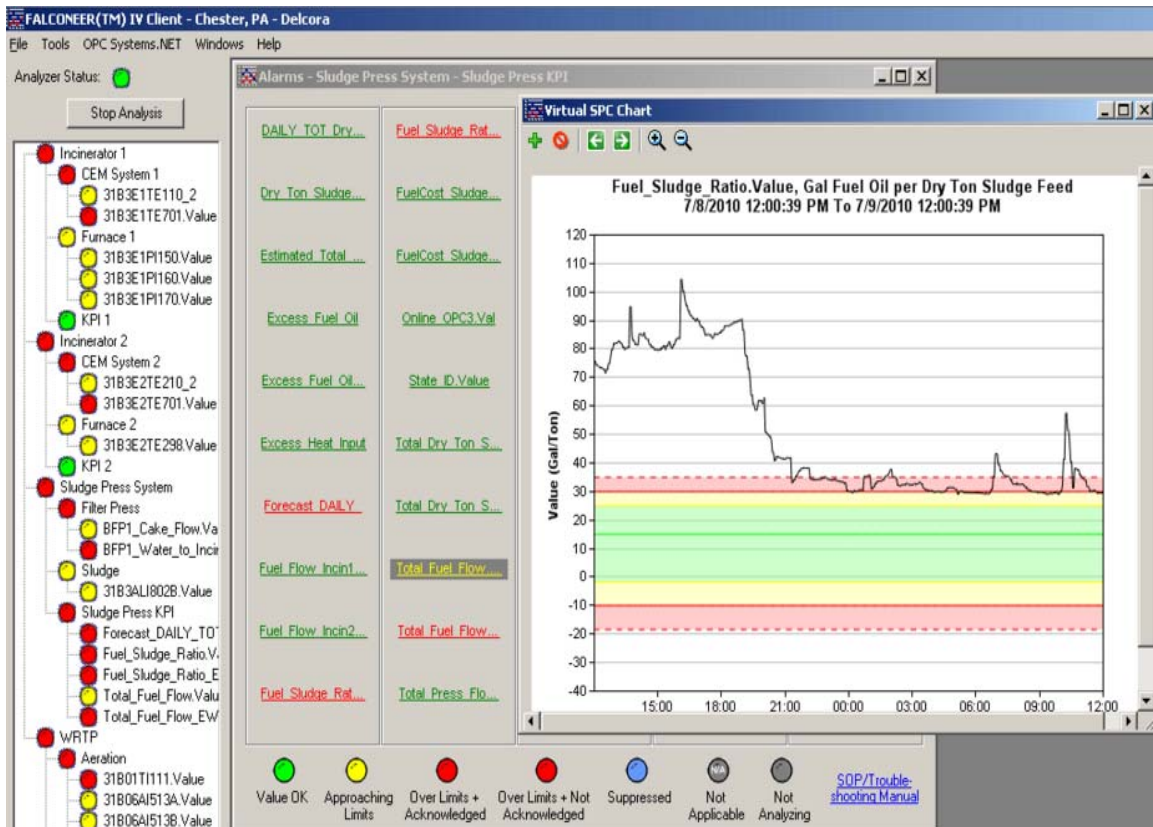

Figure 1
1. FALCONEER summarizes all the alarms in a single dashboard versus operators need to look one by one on the SCADA screen. Green is good operation that no alarms will appear on the tree and yellow is caution or warning before it is out of control range and red is out of control range. (See Figure 1). Use of this dashboard will prevent damaging temperatures in excess of 1650 deg F and identify the onset of dropping temperatures.
2. FALCONEER provides simple intelligent statistical process control chart. The chart with limits that operators need to keep in the green zone for good operation, yellow zone is the caution before it is out of control range, and red zone is out of control range. (See Figure 1). Use of these charts help maintain normal, energy-saving, non-damaging operating conditions and will alert the operators to make proper adjustments to the correct parameters sooner (before any Hi or Lo control system alarms provide indication).